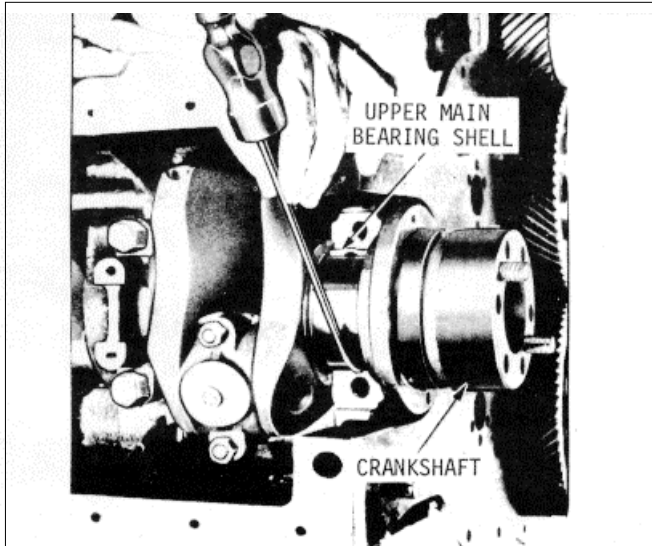

Fig. 4. Removing Upper Rear Main Bearing Shell
- (b) Remove the rear main bearing upper shell by tapping on the edge of the bearing with a small curved rod, revolving the crankshaft at the same time to roll the bearing shell out as shown in Fig. 4.